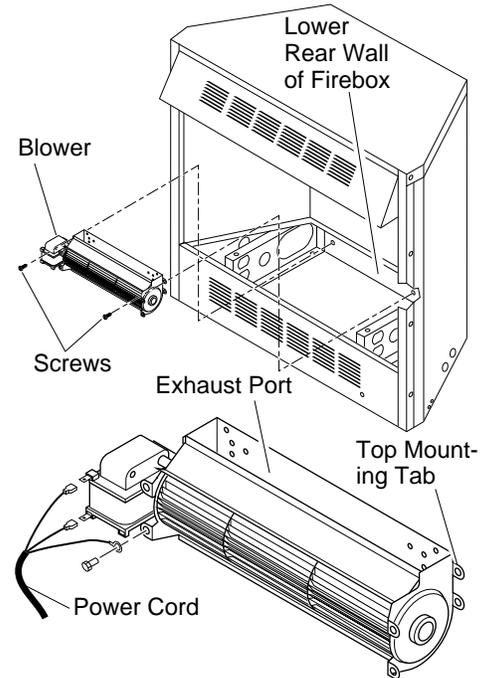

Figure 17 - Mounting Blower to Firebox
4. Attach power cord to blower motor by firmly pushing the two female terminals of the power cord onto the two spade terminals on blower motor. Using screw provided, attach ringed terminal of power cord to mounting tab of blower housing (see Figure 17). Tighten screw securely.
5. Place the blower against lower rear wall of firebox outer wrapper with the exhaust port directed upward. Align the holes in top mounting tabs of blower with holes in wall of wrapper (see Figure 17). Using 2 screws provided, mount blower and tighten screws securely.